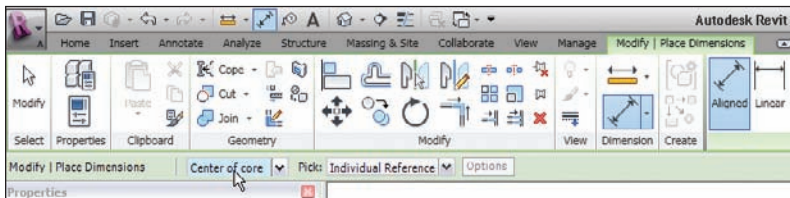

FIGURE 5.26 Changing the options for the dimension
6. Also on the Options bar, be sure the justification is set to Center Of Core (see Figure 5.26).